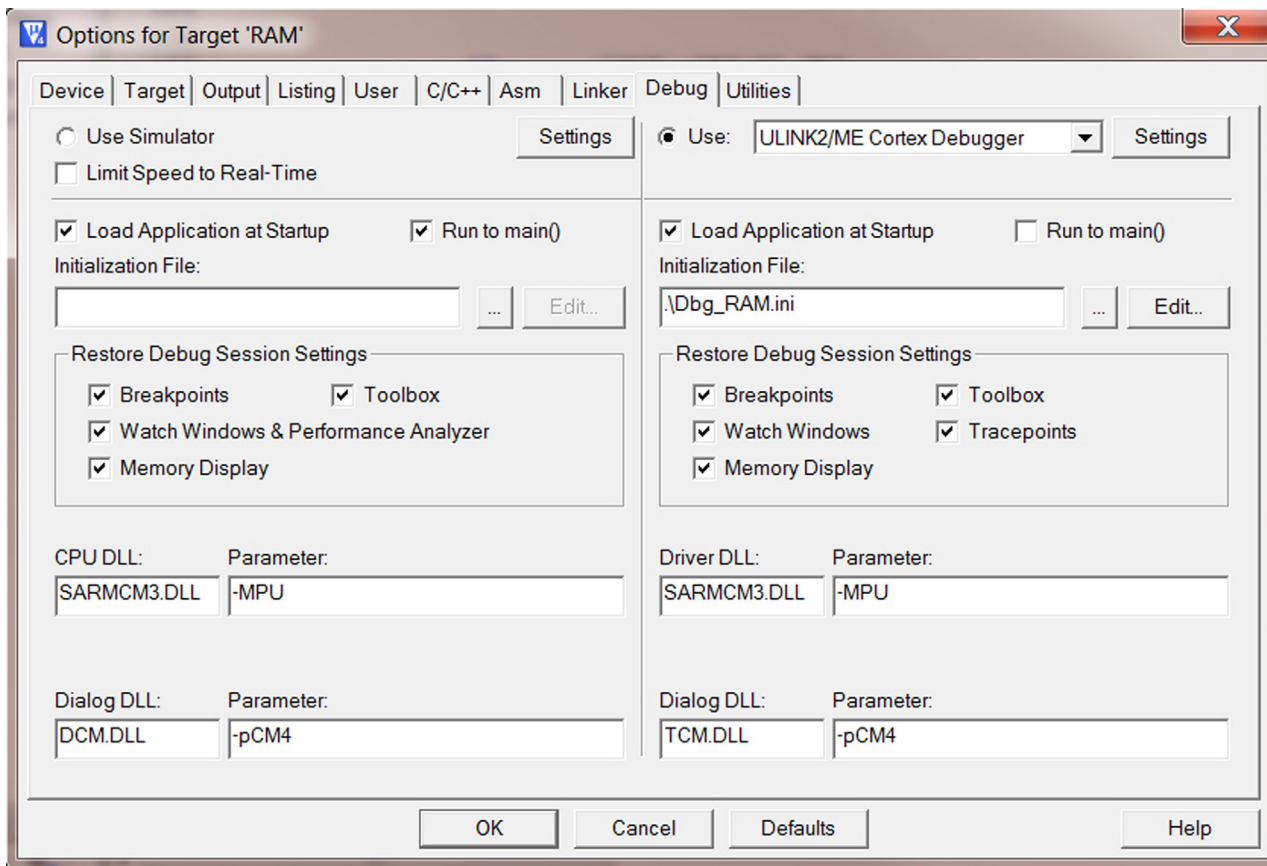

FIGURE 15.39
- By default the processor tries to load the initial value of PC and MSP from address 0. However, in this test the initial PC and MSP will be located in address 0x10000000 (the starting of program SRAM), so we need to add a simple debug initialization script to set the PC and MSP to the correct values. In the debug option we add the `Dbg_RAM.ini` in the debug initialization file option (Figure 15.39). This file is copied from Keil application note 233. Besides setting the PC and MSP values, it also forces the processor’s xPSR to a valid value, and sets the Vector Table Offset Register (VTOR; see section 7.5) so that the vector table in the program image stored in SRAM is used. Instead of using a script, you can also change these registers values inside the debugger manually. But using a script is much more convenient.